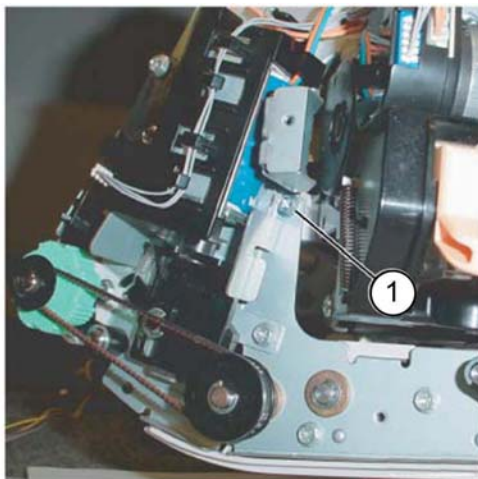

Figure 5 Front screw removal
11. Remove the front self-tapping screw (1), **Figure 5**.